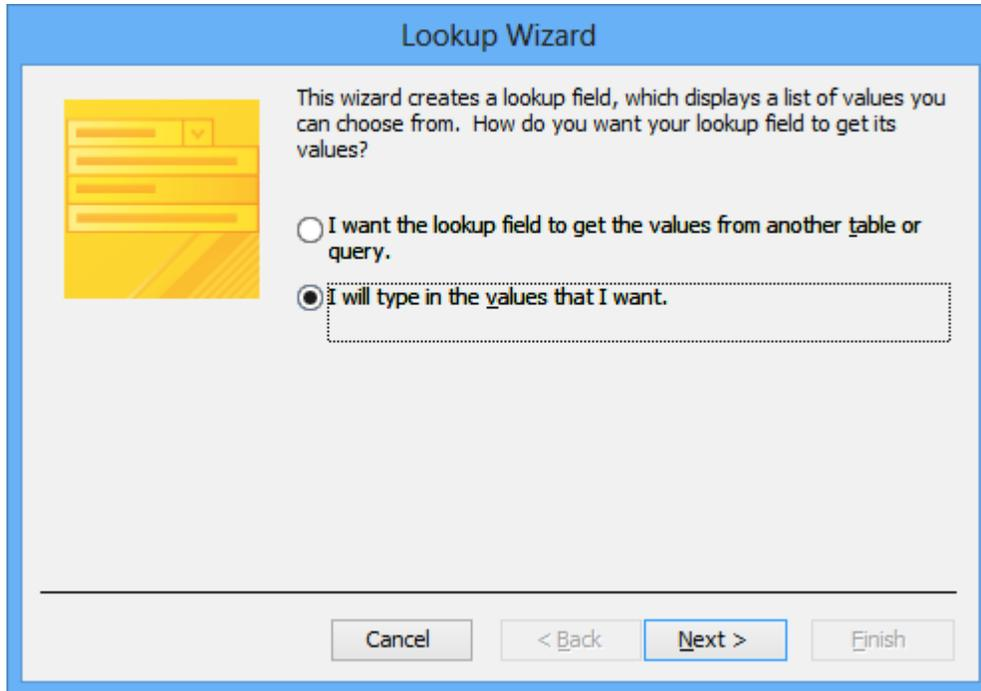

Figure 45: Initial Lookup Wizard Window
1. **Choose the Kind of Value Source:** You have two choices; choose the second one, “I will type in the values that I want” (Figure 45). Click **Next**.